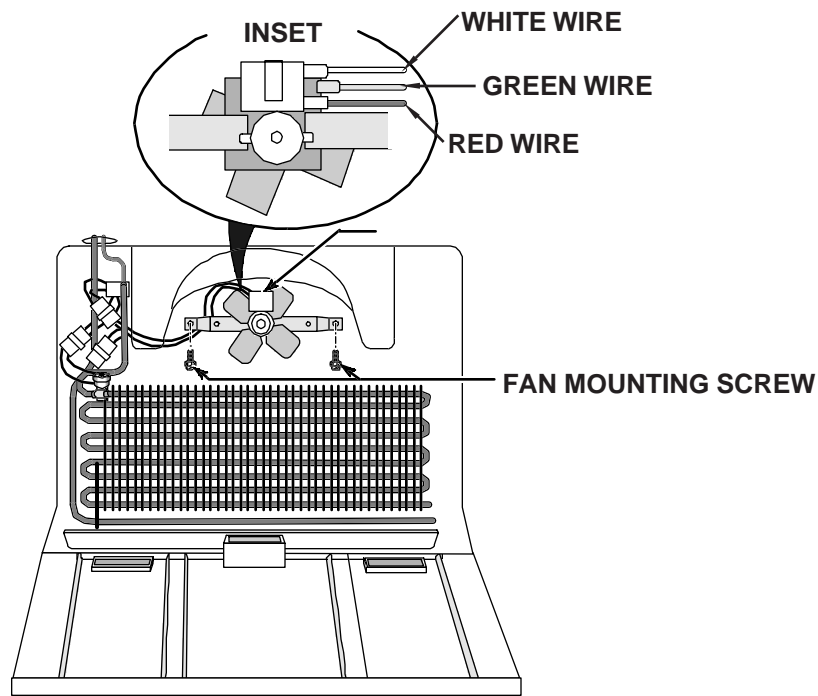

Fig. 53
2. Disconnect the three wires from the fan motor terminals (Fig. 53, INSET) and remove the fan motor assembly. (Fig. 53, Inset)